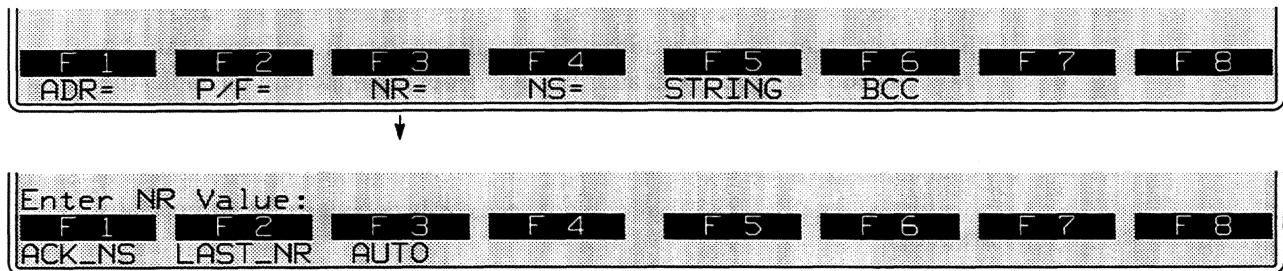

Figure 39-23 The N(R) field may be specified in INFO and supervisory frames to be sent.
7. *N(R).* N(R) fields are transmitted in INFO and supervisory frames.
To specify an N(R) value, press the softkey for NR= (see Figure 39-23). Enter a hexadecimal value written as one or two alphanumeric digits. For example, an entry that represented the highest valid N(R) in MOD 8 would be NR= 7. The highest valid entry in MOD 128 would be NR= 7F.
Other N(R) options are ACK_NS, LAST_NR, and AUTO. (See Figure 39-23.) ACK_NS means that your N(R) will acknowledge (that is, it will be *one higher than*) the last